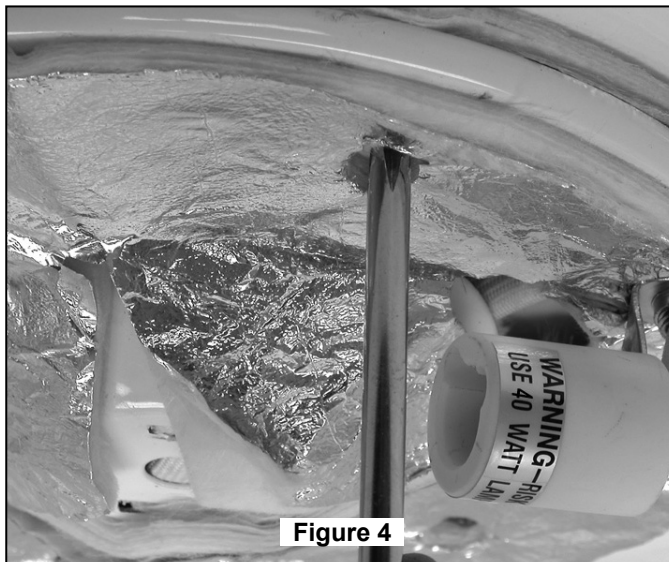

Figure 4
8. Slide the Motor Coupling Cover down until it touches the top of the Housing. (Figure 4)
5. Install three Candelabra Bulbs (not included - 40 watts max) in each of the sockets on the Upper Housing Assembly. (Figure 4)
4. Securely attach Downlight Socket Plate Assembly to the Adapter Plate by tightening three screws with spring washers (5/32-32 x 8 mm) provided with the fan. (Figure 4)
Be sure to line up the curved slotted holes located on both Lower Housing Support Plates. (Figures 4 & 5) Purpose of these holes are for the convenience of removing and re-installing the blades without dis-assembling the Adapter Plate and Downlight Socket Plate Assembly.